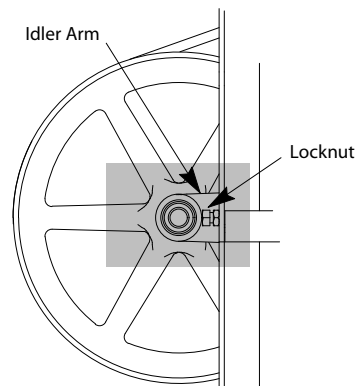

Figure 2 - Locknut Adjustment Screw
7. Check and adjust, as necessary, the tension of the 3 V belts between the drive wheel and the jack shaft sheave. See Figure 2.